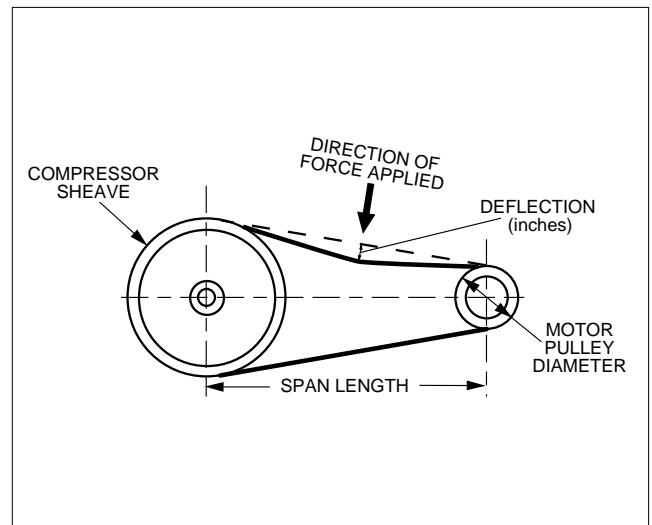

Fig. 5-2 Setting Belt Tension
Step 1) Measure the span length of the drive. (Refer to **Fig. 5-2, Setting Belt Tension.**)